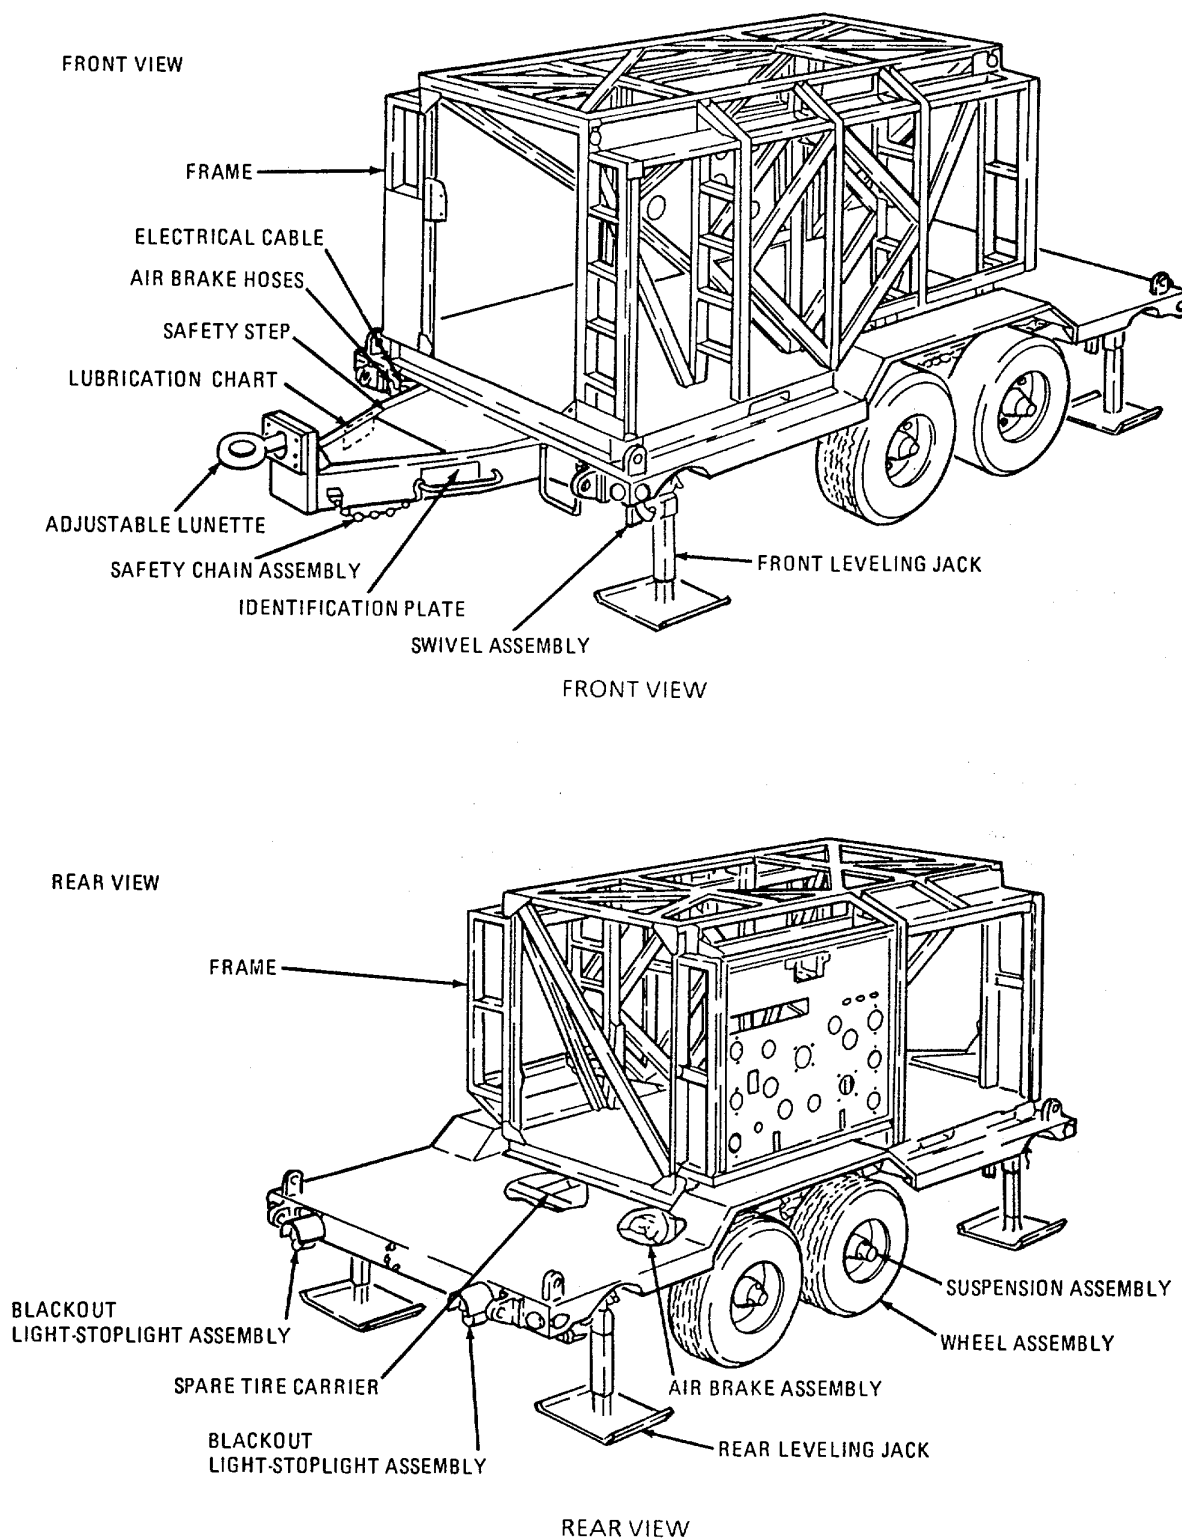

FIGURE 1-14. ROWPU FLATBED TRAILER AND FRAME (ARMY).
f. Trailer's Components. Figure 1-14 (ARMY) shows the location of the trailer's major components. MC and AF ROWPU's are skid mounted, but the frame is similar to that shown in figure 1-14.